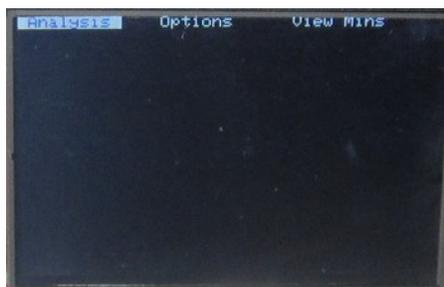
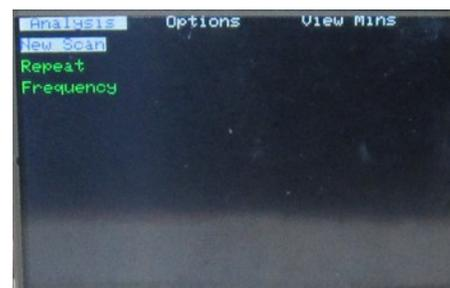
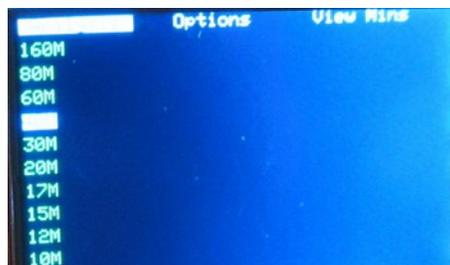

Figure 1
Figure 2. The Analysis sub menu
Figure 3. The minimum VSWR for all scanned bands.
The startup screen for the AA is shown in Figure 1. This first screen shows the main menu options Figure 1. Antenna Analyzer Startup Screen across the top of the display, with the Analysis menu option currently selected on power up. The current selection is always highlighted. Turning the *Select* knob clockwise (CW) advances the highlighted selection to the Results menu option. Another CW move of the *Select* knob highlights the File menu option. Another CW move causes the highlighted option to “wrap around” back to the Analysis menu option. Likewise, if you had the Analysis menu option highlighted and turned the *Select* knob counter clockwise (CCW), the File menu option would be highlighted.
As a general rule, rotating the *Select* knob moves between menu items. In Figure 1, rotation results in movement to the left (CCW rotation) or right (CW rotation), depending upon the direction of rotation. Other menus may be
oriented in an up-down fashion (see Figure 2). In these cases, CW rotation moves the menu option towards the bottom of the display, while a CCW moves the option towards the top of the display. If the end points of a menu is reached but the same direction continued, the menu wraps around to the other end of the menu option list.
The *Select* knob has a built-in switch. If you currently have the Analysis menu item shown in Figure 1 selected and push on the *Select* knob, the display screen changes to show you a sub-menu. This sub menu is shown in Figure 2. By default, activating a sub menu always highlights the first item in the new sub menu. The first sub menu item in the Analysis sub menu is *New Scan*, followed by other sub menu items.
If you press the *Select* knob as shown in Figure 2, you will select the *New Scan sub menu* option. The display shows the bands covered by the AA. This is shown in Figure 3. The 40M band is highlighted in the Figure, which means you wish to run a scan on some segment of the 40M band. Once you have selected the band,